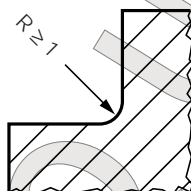

Fig. 1
- Avoid sharp "internal" corners. The radius of curvature should be at least 1 mm. Refer to figure 1.